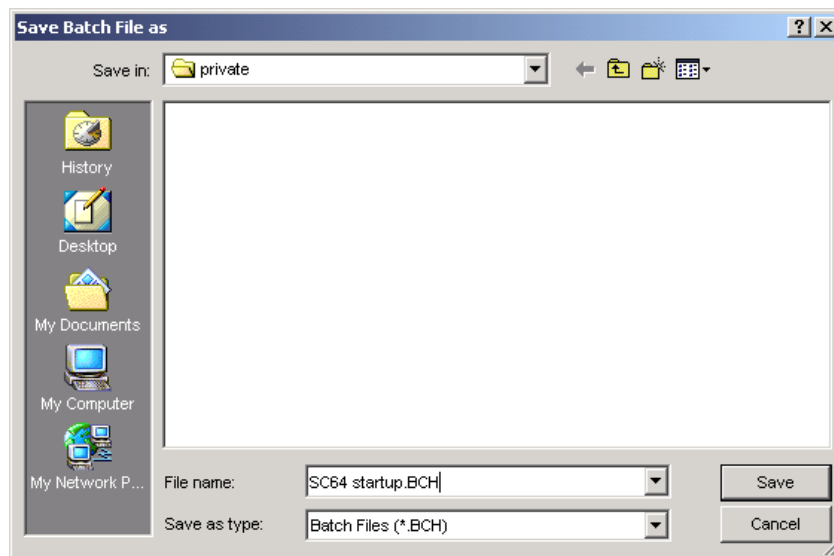

Figure E-9 PCOMM batch file save
4. Click **File** → **Save as**. Enter a name for the batch file with a file extension of BCH, and click **OK** (see Figure E-9).